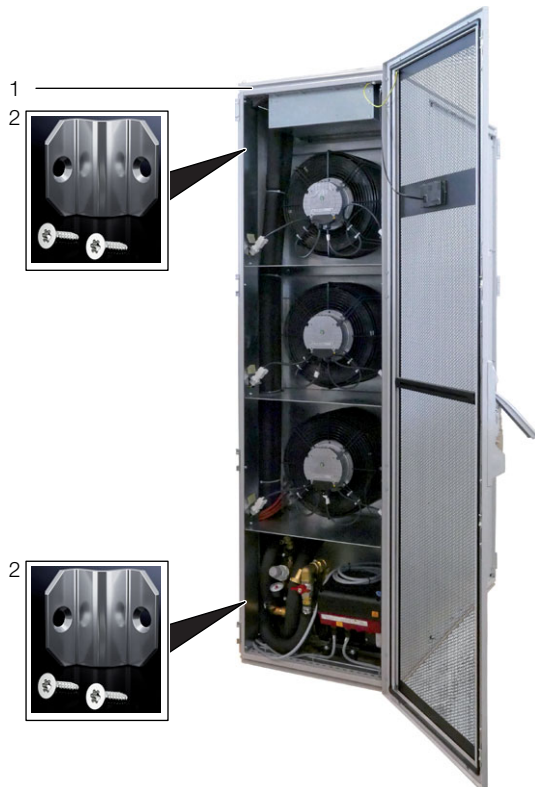

Fig. 12: Front
- Using the corresponding assembly screws, fasten two baying connectors each (fig.12, item 2) onto the attachment points provided in the mounting strips on the front and rear of the LCP DX (fig.12, item 1).